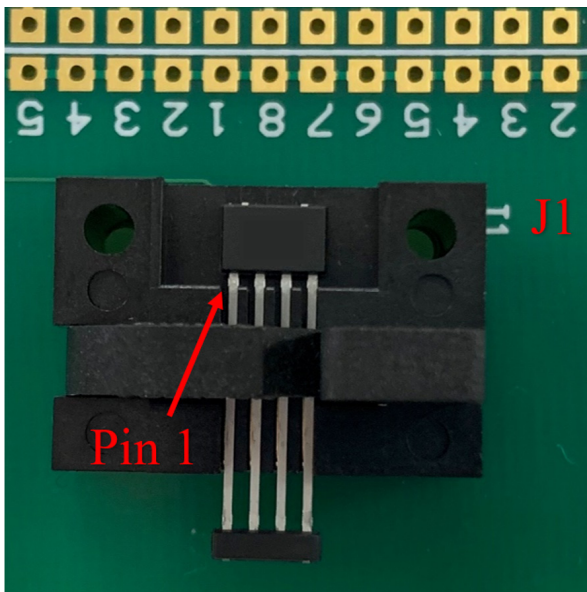

Figure 11: ACS70310 KT in “J1” socket
4. See Figure 11 showing the ACS70310 in “J1” socket.